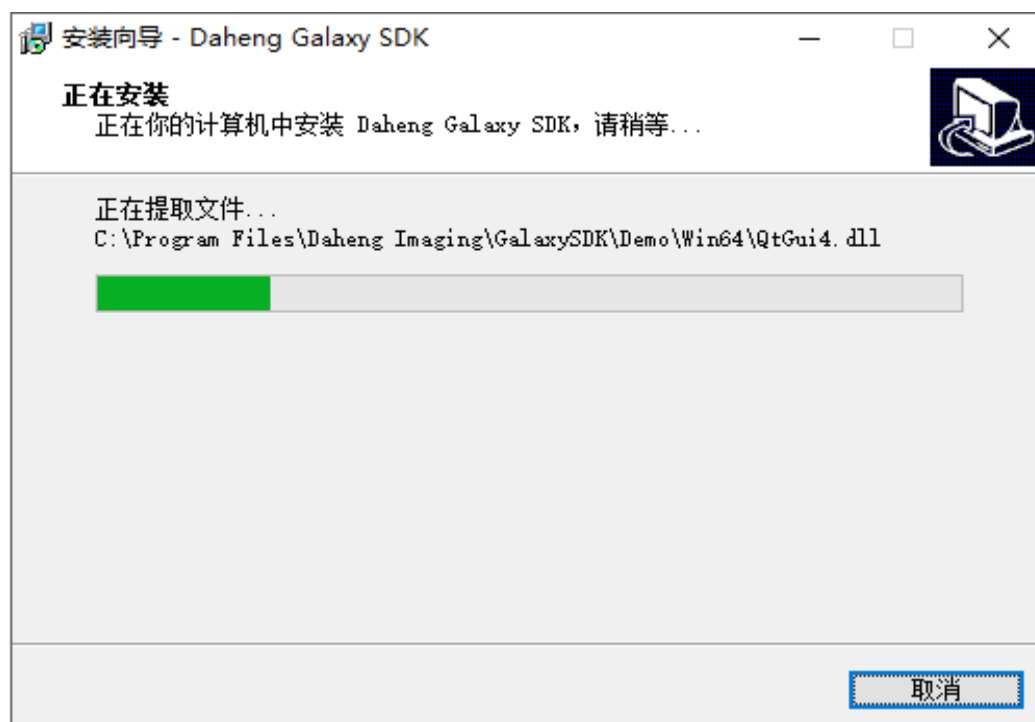

Figure 2.2-20
(22) Click 安装 to get an idea of the progress of the installation based on the progress bar. As shown in Figure 2.2-20: